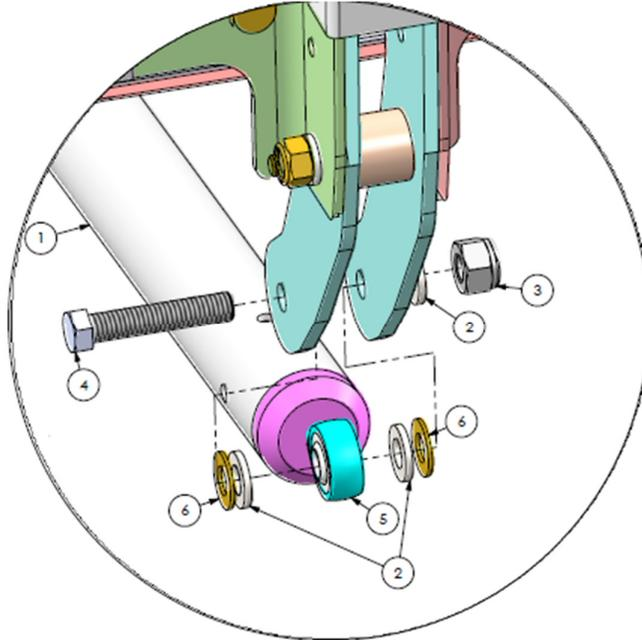

Figure 22: Detail G
Step 13. Remove the AN4 locknut (3) and bolt (4), shown in Figure 22.
- Step 14. Replace the *noncompliant* eyebolt (5) with either a *type 1* or *type 2*.
- Step 15. Reassemble the eyebolt assembly as seen in Figure 22.